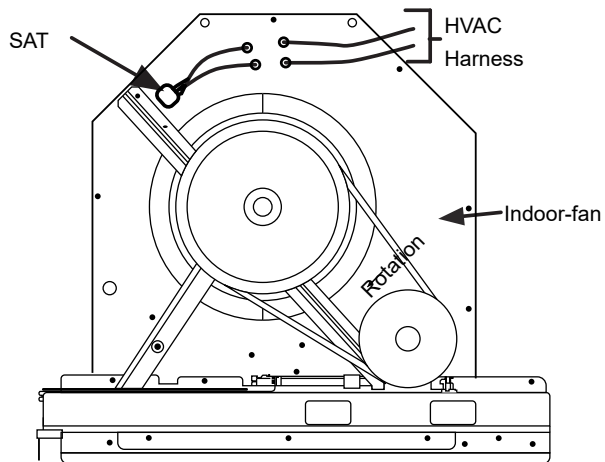

Fig. 8 — Blower Housing
10. Install the supply air temperature sensor (SAT). The sensor looks like an eyelet terminal with 2 attached wires, and is shipped in the economizer hardware bag. The sensor is located on the “crimped” end and is sealed for moisture. Mount the SAT to the indoor blower housing. (See Fig. 8.) Use the provided screw to secure in place. Attach the PINK and VIOLET wires in the unit to the sensor.